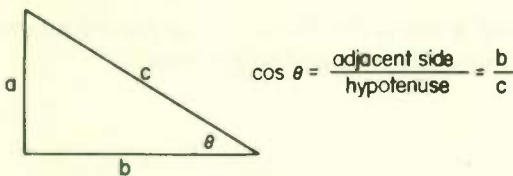

Fig. 45 The cosine of an angle of a right triangle is the ratio of the length of the adjacent side to the length of the hypotenuse.
- 11** DEFINITION OF POWER FACTOR . . . In a discussion of power factor you will usually encounter the word "cosine." This term comes from trigonometry, and it is used with reference to angles. The cosine of an angle of a right triangle is defined as the ratio of the length of the adjacent side to the length of the hypotenuse. In Fig. 45 the cosine of angle θ (theta), abbreviated $\cos \theta$, is equal to side b divided by side c .